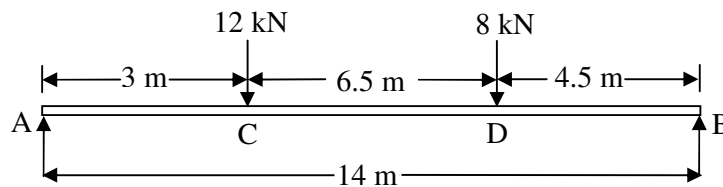

Figure 2
6. A horizontal steel girder having uniform cross-section is 14 m long and is simply supported at its ends. It carries two concentrated loads as shown in Figure 2. Calculate the deflections of the beam under the loads C and D. Take $E = 250 \text{ GPa}$ and $I = 150 \times 10^6 \text{ mm}^4$.